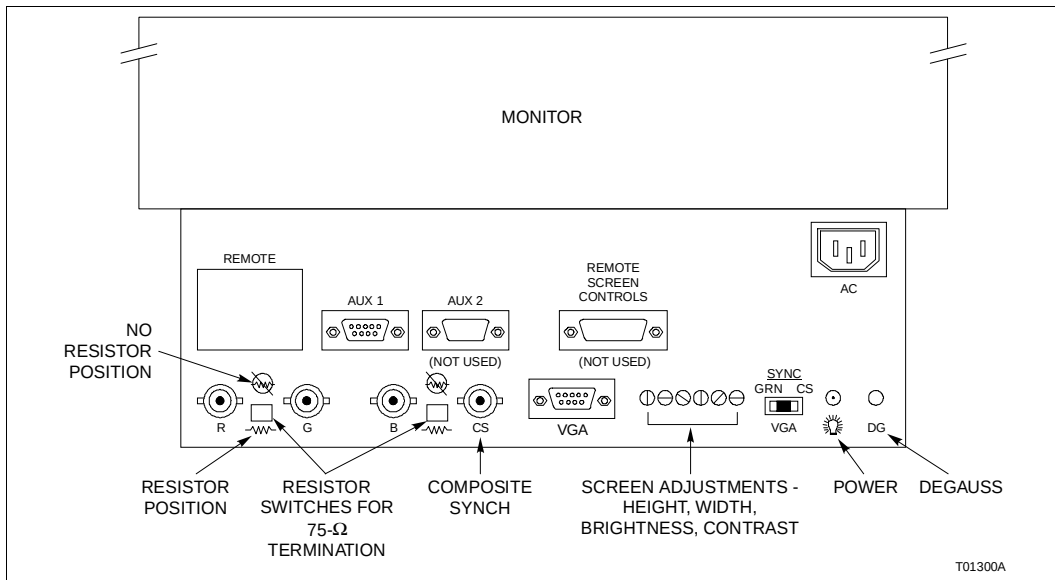

Figure PR41-1. Monitor Connections and Adjustments
- ☐ 10. Install the power cord and VGA cable to the rear of the monitor (Fig. PR41-1).